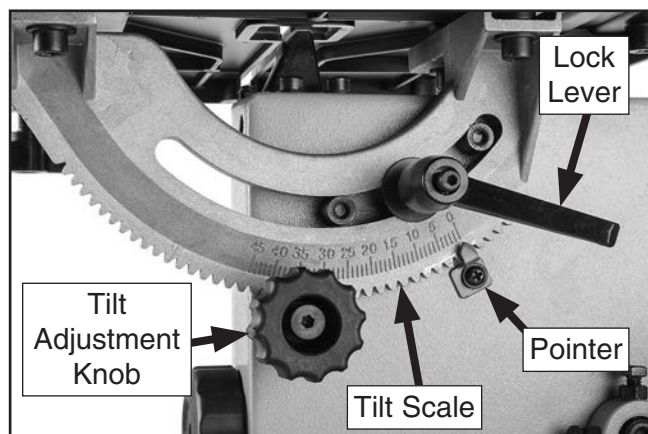

Figure 34. Table tilt controls.
The table can be tilted to make angled or beveled cuts. A simple tilt scale is provided on the trunnion for a quick gauge (see **Figure 34**). For more accurate results use a protractor.
2. Loosen table lock lever shown in **Figure 34**.